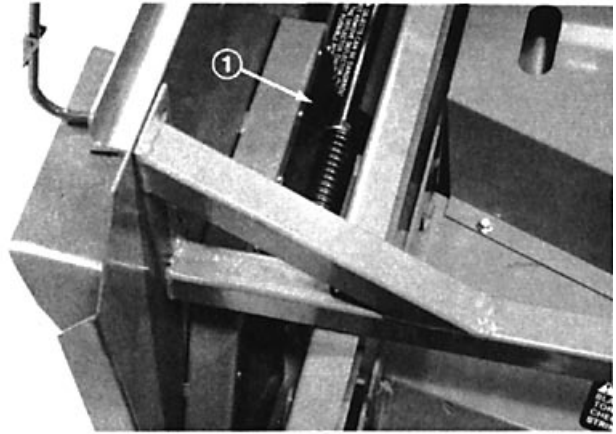

Figure 3
2. Make sure the rubber seal is positioned between the deflector hinges and the deck spring (Fig. 3).